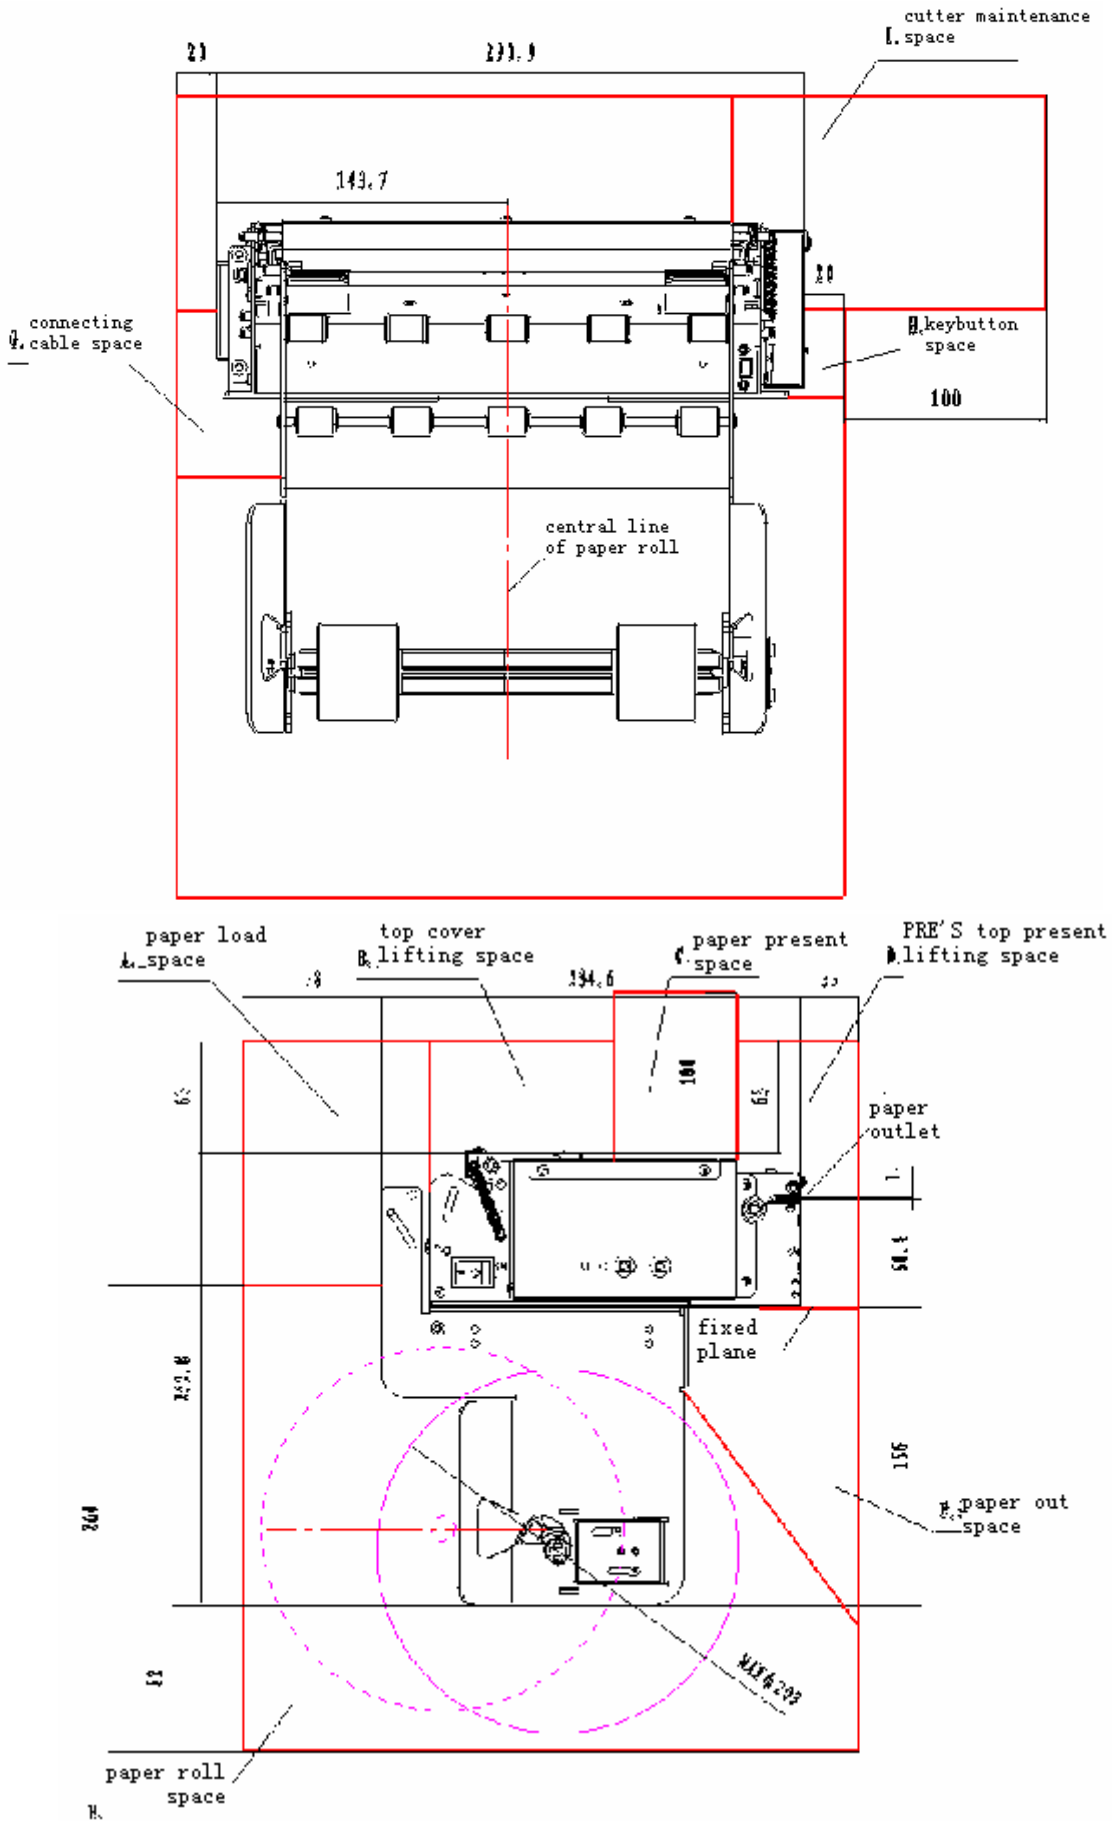

Figure 4.16 Vertical structure
- while operating and doing routine maintenance, we suggest reserving the space as follows (figure 4.16、4.17、4.18) in order to guarantee printer working reliability and easy operation efficiently.